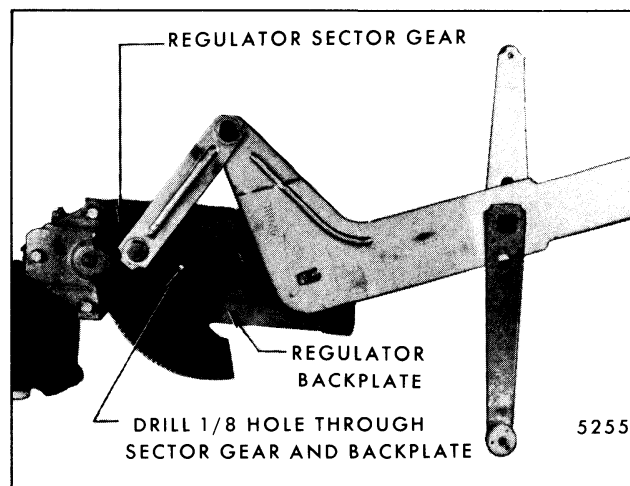

Fig. 5-38-Front Door Window Regulator Motor Removal
3. Drill a 1/8" hole through the regulator sector gear and back plate (Fig. 5-38) DO NOT drill hole closer than 1/2" to edge of sector gear or back plate. Install a pan head sheet metal tapping screw (No. 10-12 x 3/4) in drilled hole to lock sector gear in position.